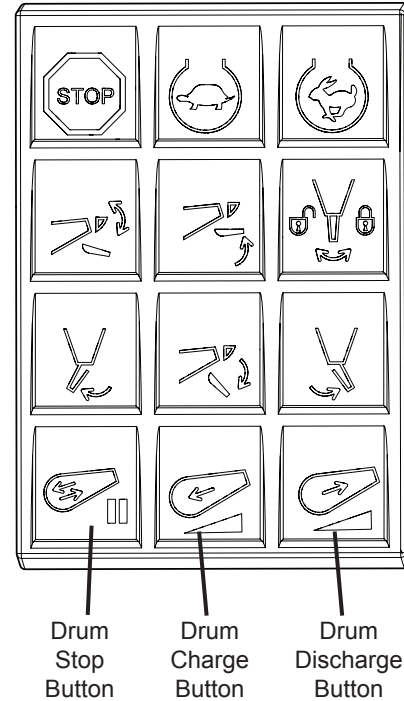

Figure 13
1. Make sure the drum Start/Stop button indicator is OFF on the rear pendant keypad by pressing the button to toggle the light on/off (Figure 13).
2. Press the appropriate button, either Charge or Discharge on the rear pendant keypad (Figure 13).
**NOTE:** Charge and Discharge keypad button LED's will illuminate when the drum is rotating in the charge (CW) or discharge (CCW) direction.